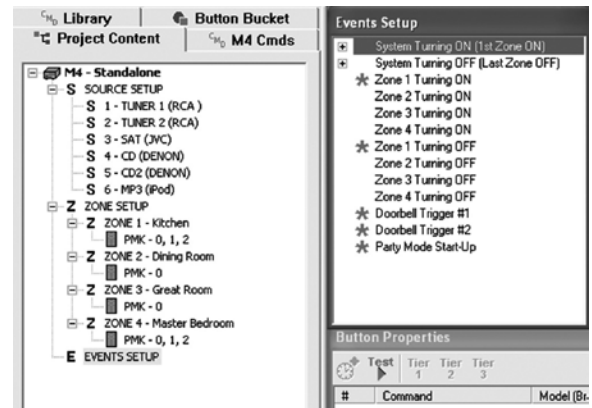

Figure 40 Accessing Events Setup 2.
1. To access, click **EVENTS SETUP** under the Project Content tab. Refer to Figure 40.